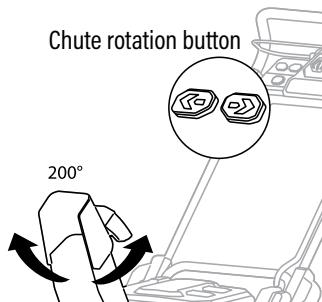

Fig. 10
The direction of snow removal can be adjusted up to 200° by pressing the chute rotation button. (Fig. 10)
1. Press and hold the chute rotation button on the left from the view of the operator's position, the snow discharge guide turns to the left. (Fig. 10)
2. Press and hold the chute rotation button on the right from the view of the operator's position, the snow discharge guide turns to the right. (Fig. 10)